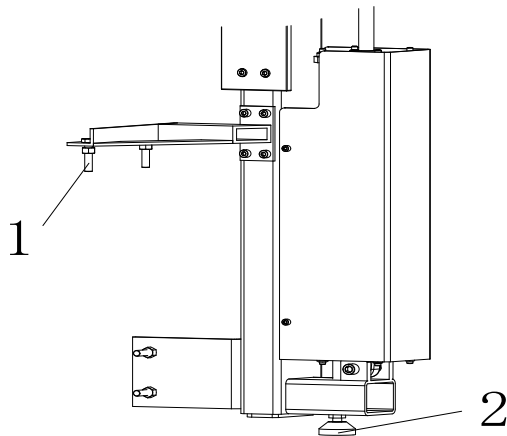

Fig 7
- 2) Fix the column on the body with four screw1 and adjust the support 2 to a suitable location; (Fig 7)